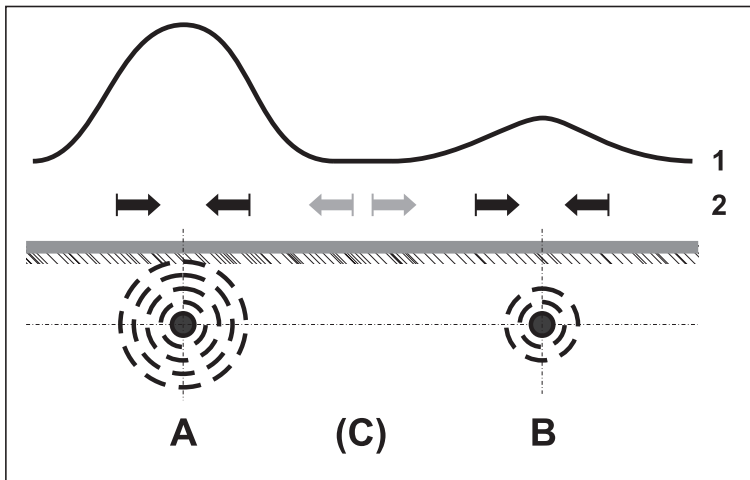

Fig. 41: Locating situation for adjacent lines
Fig. 41 shows a locating situation where another line (B) is positioned closely next to the line being located (A). Line A is